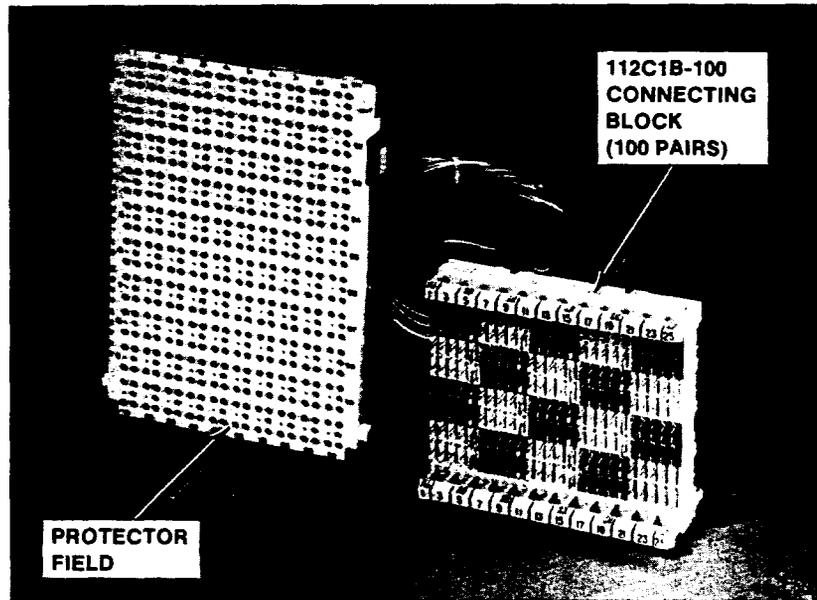

Figure 4. 407F1-100 Connector — Front View
**2.04** The 407F1-100 connector (Figures 4 and 5) has a plug-in unit panel interconnected to one 100-pair 112H1B-100 (high-density) connecting block. The connector mounts on shelves 2 through